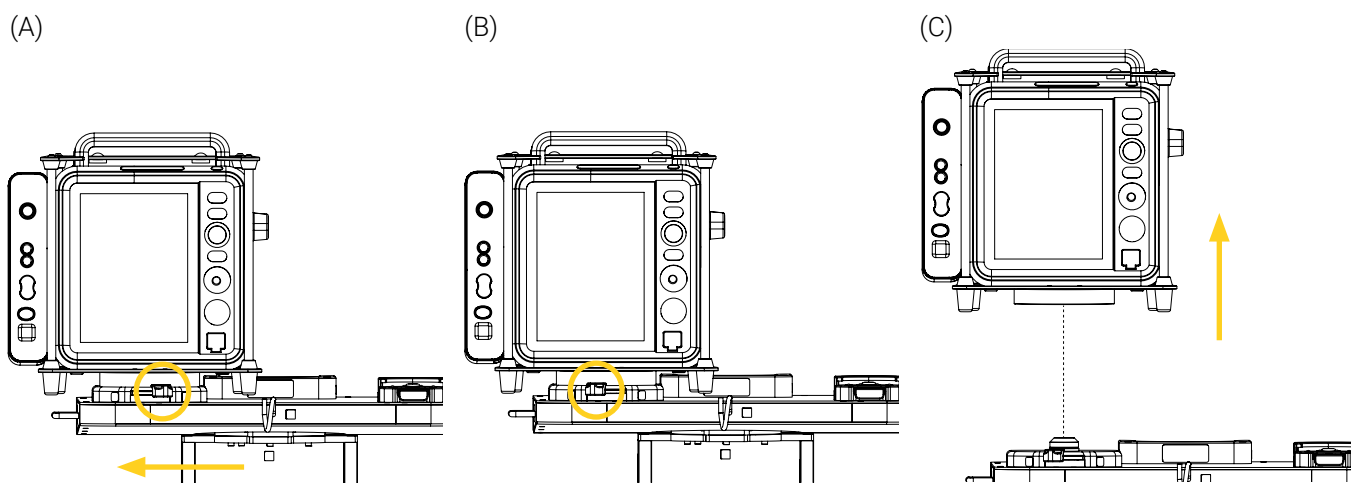

Figure 47: Removing the medical device from the Universal Mounting Base
1. Slide the locking lever located at the front of the Universal Mounting Base towards the left in the locked position , then lift the medical device vertically to remove it (Figure 47). Refer to the « Deactivate the Safety Mechanism of the Universal Mounting Base » section on page 36 and the Universal Mounting Base's User Manual if needed.